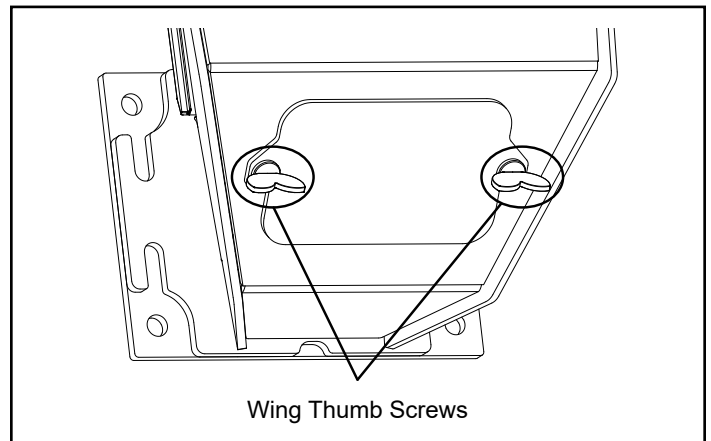

Figure 2.4
- Loosen the (2) wing thumb screws on the lower front angle of the burn pot. Figure 2.4